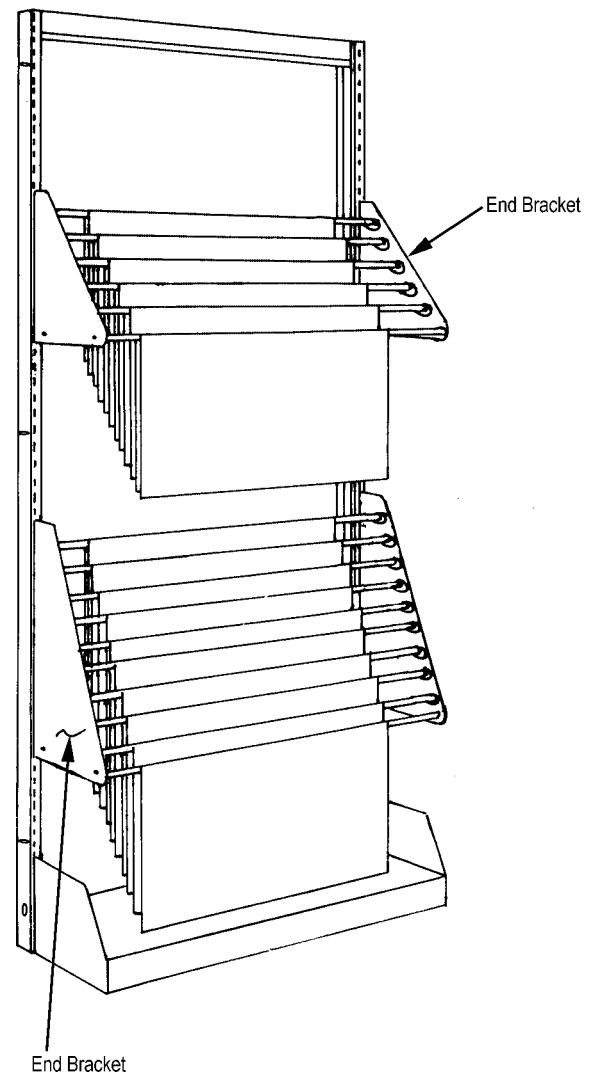

FIGURE 45B
2. Install newspaper rack end brackets in slots on frame uprights equal distance from the floor. See Figure 45B.